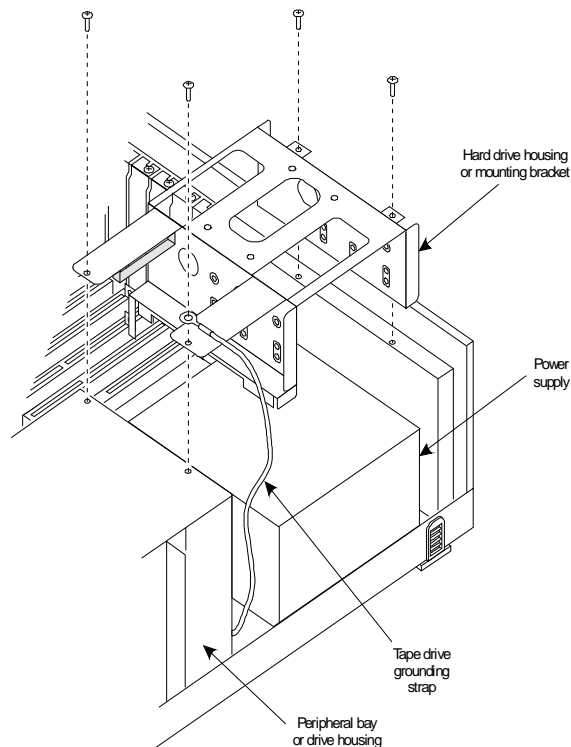

Figure C-13. Removing the Second Hard Drive Housing or Mounting Bracket
3. Refer to Figure C-13. Remove the two screws on each side of the drive housing that secure the floppy diskette drive tray. Set aside for use again.